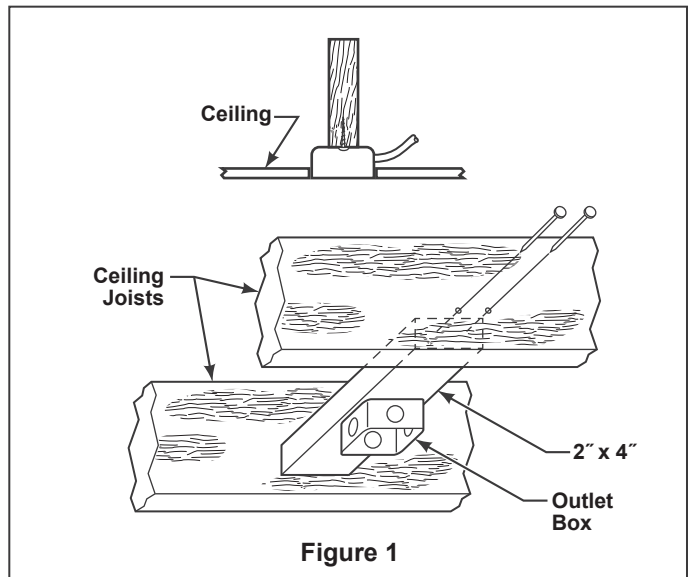

Figure 1
Your new ceiling fan will require a grounded electrical supply line of 220-240 volts AC, 50 Hz circuit. The outlet box must be securely anchored and capable of withstanding a load of at least 50 lbs. **Figure 1** depicts different structural configurations that may be used for mounting the outlet box.
1. Remove the Hanger Ball by loosening the setscrew in the Hanger Ball until the ball falls freely down the Downrod. (Figure 1) Remove the Pin from the Downrod, then remove the Hanger Ball. Retain the Pin and Hanger Ball for reinstallation in Step 5.